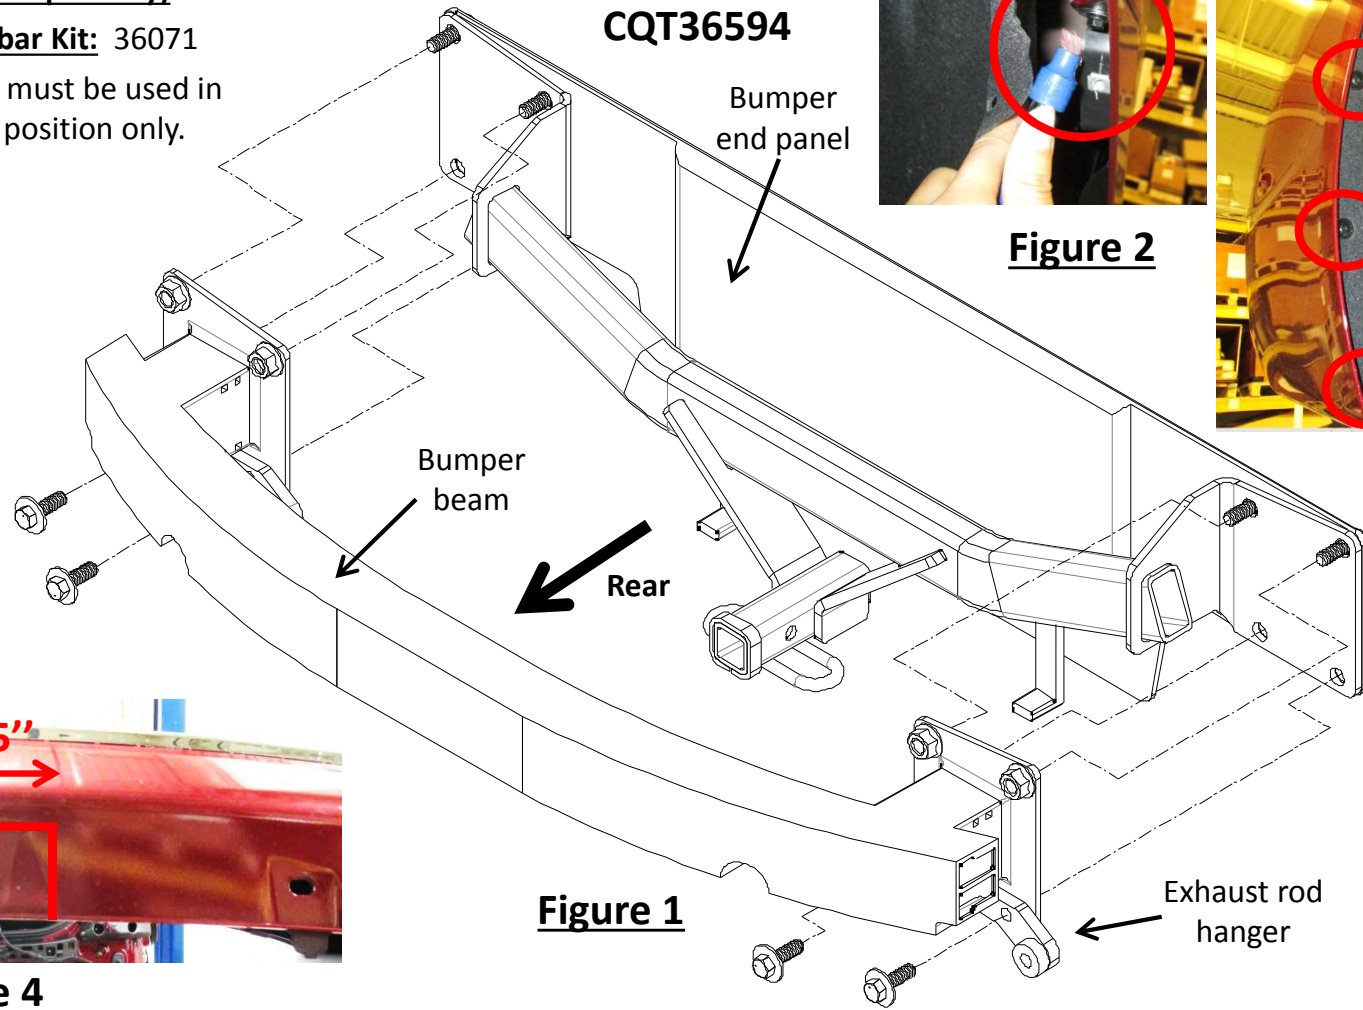

Figure 1
- Hitch installation** – raise the hitch and align top 2 holes of the hitch to the studs on the bumper end panel. Raise the bumper beam and exhaust rod hangers to sandwich the hitch, see **Figure 1**. Reuse the flange nuts and bolts to loosely fasten them.
3. Hitch installation – raise the hitch and align top 2 holes of the hitch to the studs on the bumper end panel. Raise the bumper beam and exhaust rod hangers to sandwich the hitch, see **Figure 1**. Reuse the flange nuts and bolts to loosely fasten them.